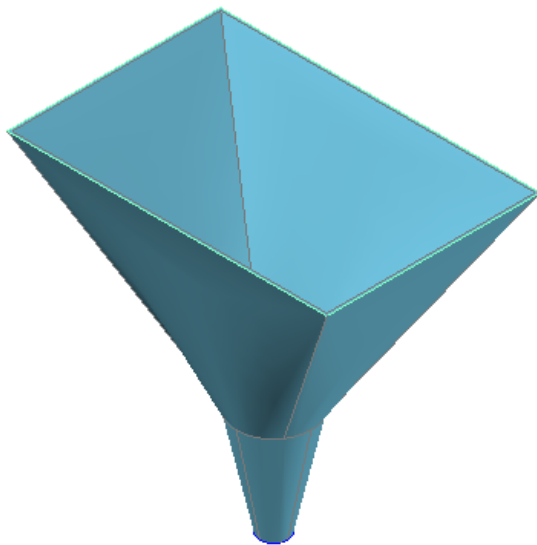

Figure Step 2A
Step 2 Shell the solid model with a wall thickness of 1.0 mm. Remove the top and bottom to create a funnel. (Figure Step 2A and 2B)